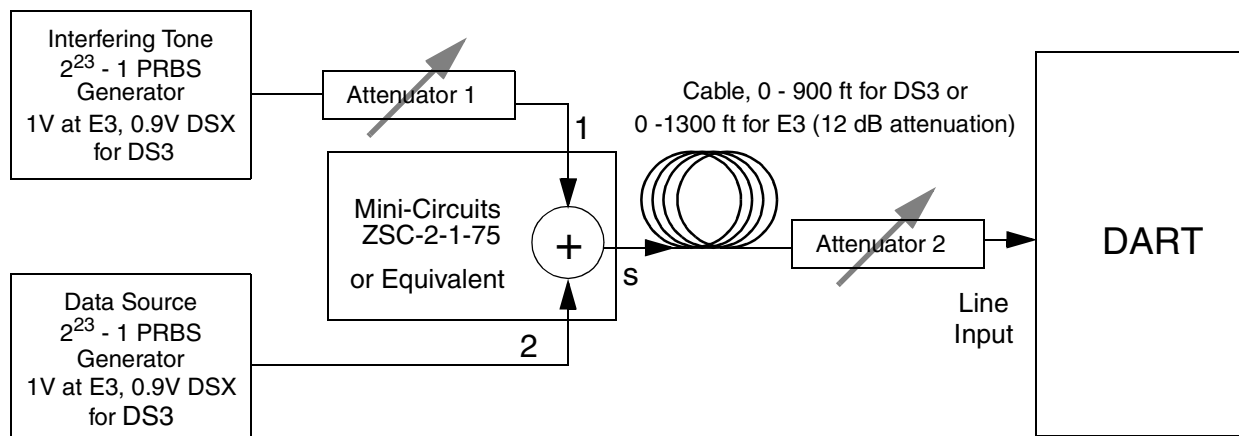

Figure 24. Interference Margin Test Configuration
3. See Figure 24 "Interference Margin Test Configuration" for test setup.